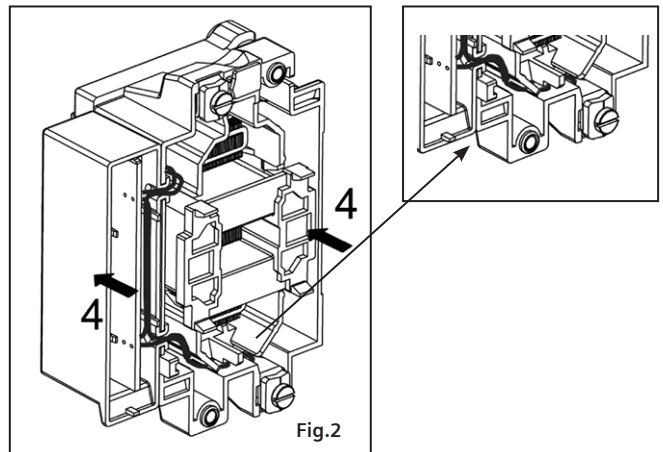

Fig.2
- Route the Wire. Push the 2x wires in the given slot with non-sharp tool. (as shown in fig 2.)